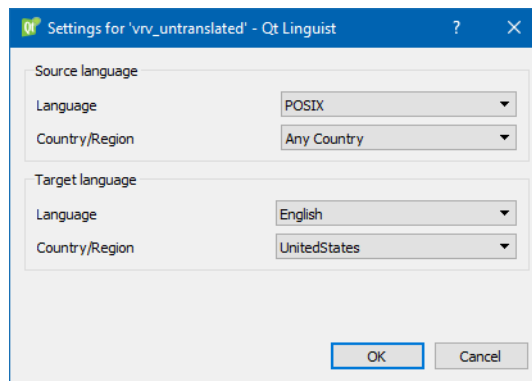

Figure 1-7. Linguist settings dialog box
2. In the Qt Linguist window, choose **File** → **Open**. Select the file `.translations/product_untranslated.ts`. The Settings for `filename` dialog box opens (Figure 1-7).